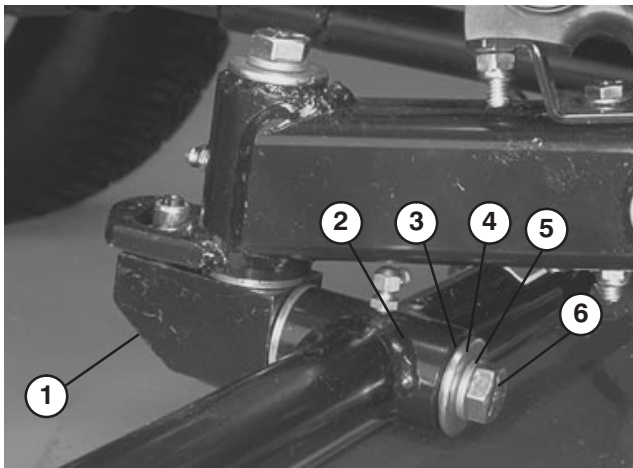

Figure 9
7. Align the mounting shaft of the cutting unit with the pivot tube on the carrier frame. Insert the shaft into the tube (Fig. 9).
8. Secure shaft in pivot tube with a thrust washer, flat washer, lock washer, and capscrew (Fig. 9).